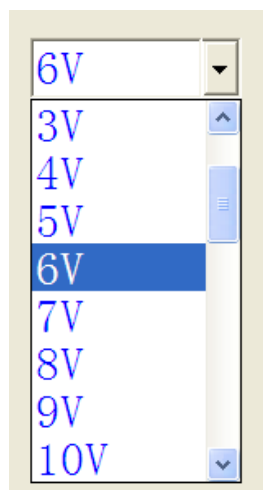

Figure 28
- B. Drop-down list box: Click the voltage list box arrow, then click the voltage you need, as figure 28